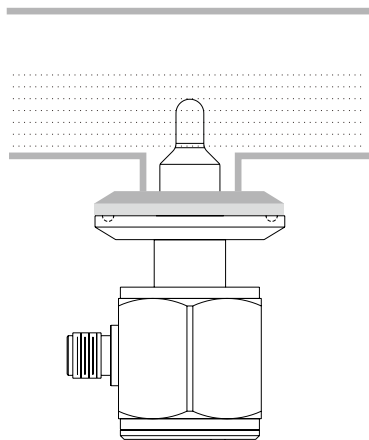

Fig. 3
- (3). When the pipe is not fully filled with liquid, SPS must be installed underneath the pipe, and liquid level has to be higher than the sensing probe. (See. Fig. 3)